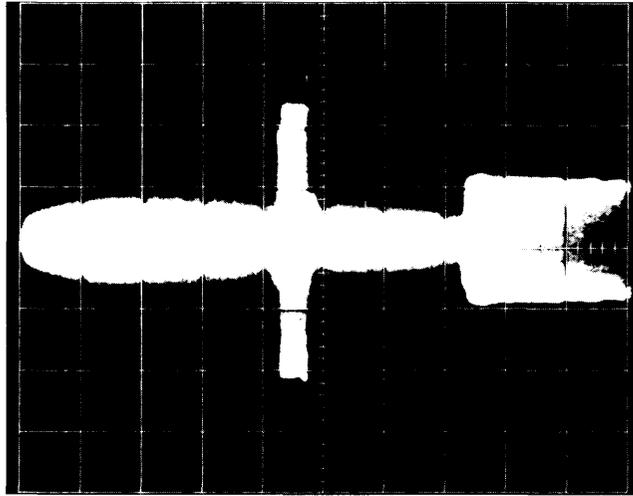

Figure 5-10. Index to Burst Waveform
8. The oscilloscope presentation should look like that of Figure 5-10.